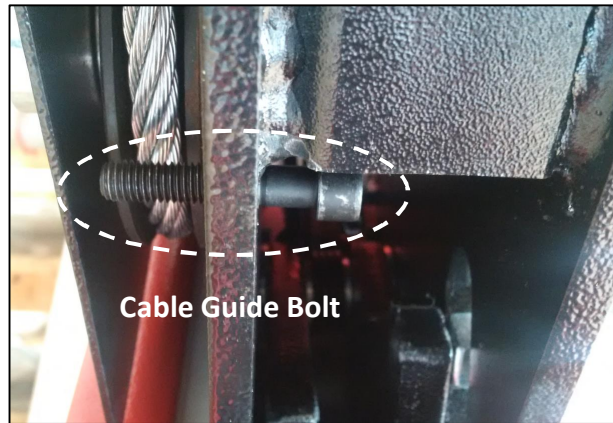

Fig. 8
19. Install Cable Guide Bolts (#21A) through the side of the Crossbeam Latch Plates at each end, as illustrated in Fig.8 below. One Guide Bolt will be installed at end of both Crossbeams.